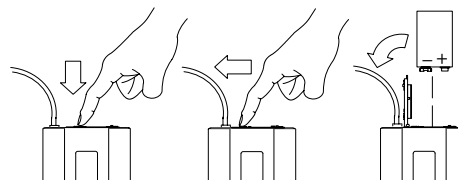

FIGURE 2
2. Press down on the OPEN side of the battery compartment cover, slide it back and flip it open. Refer to Figure 2.